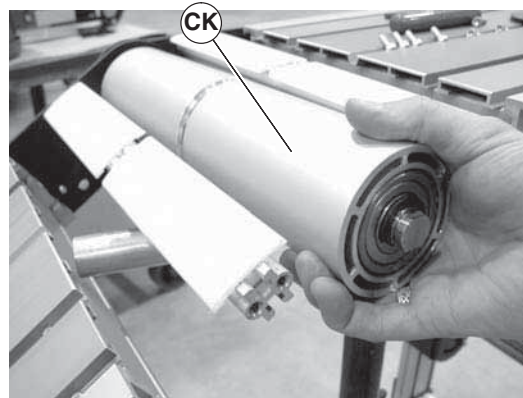

Figure 75
5. Remove the pulley shaft assembly: remove the clip ring (Figure 75, item BM) and washer (BN) from one side of the pulley assembly.